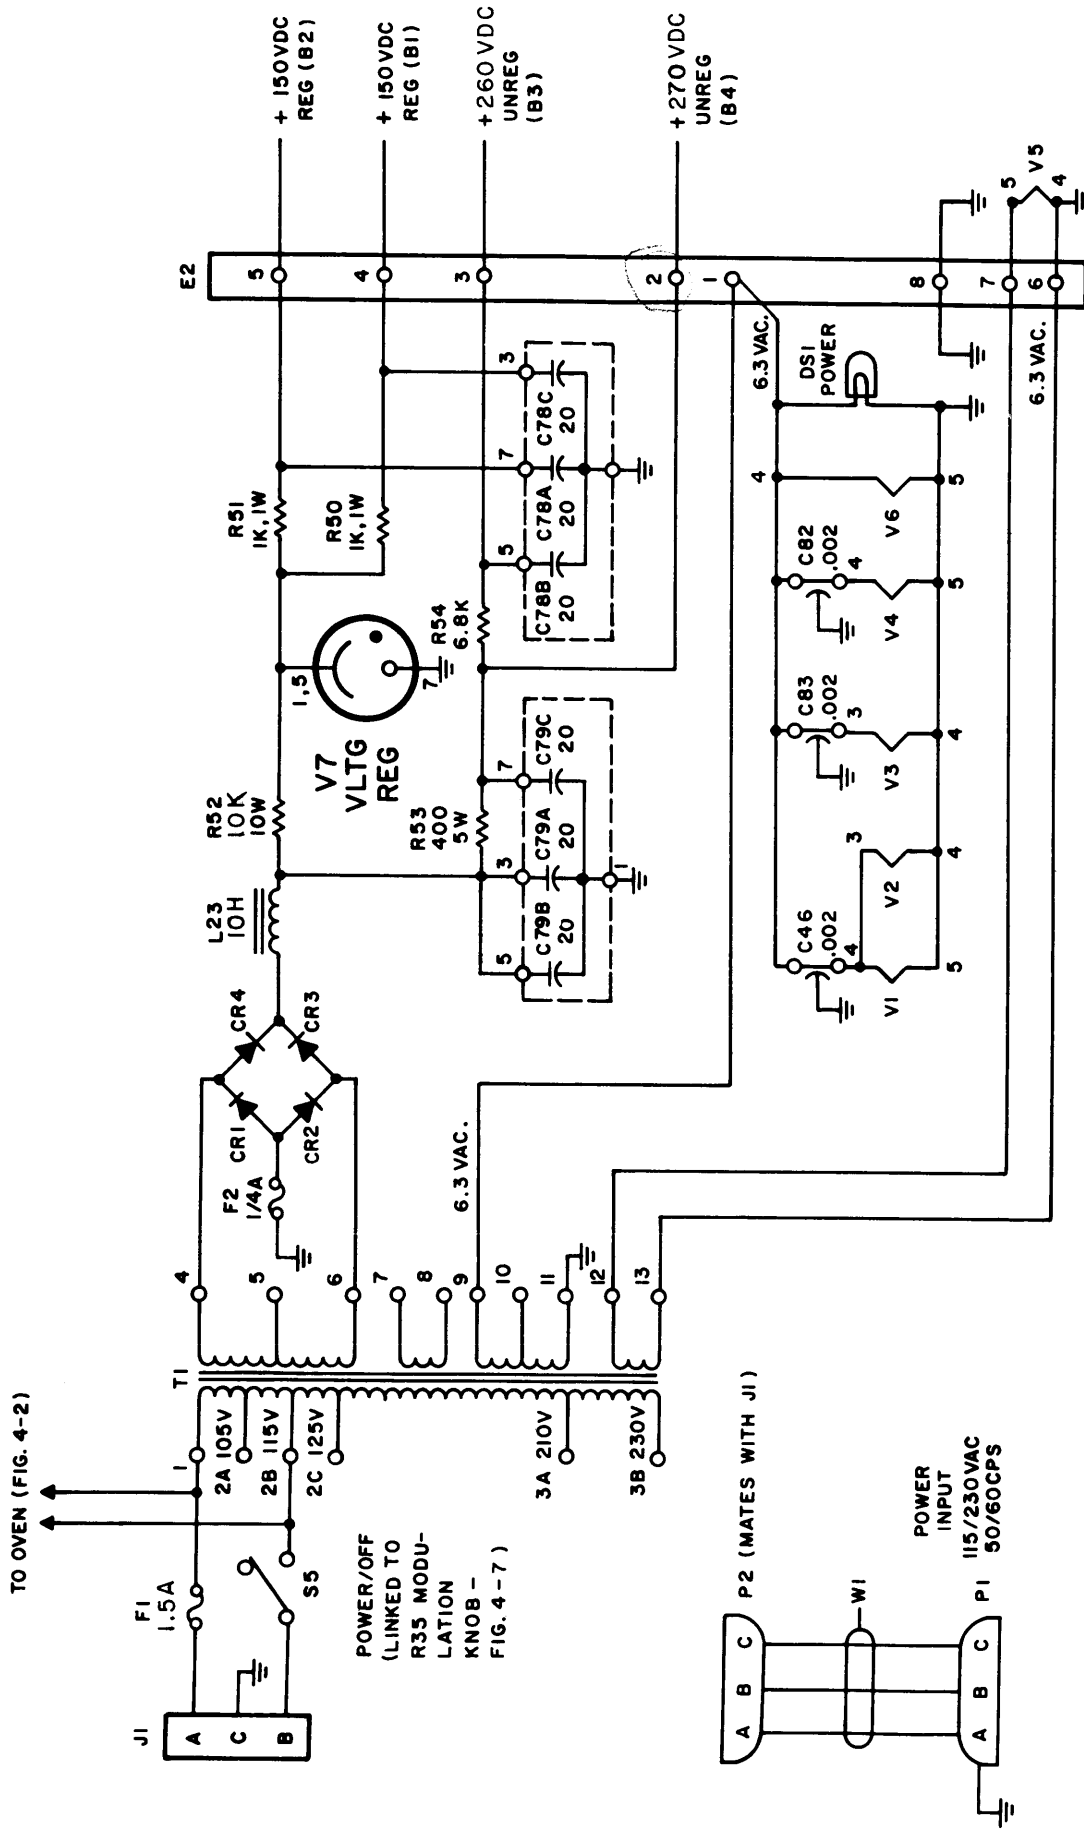

Figure 4-10. Simplified Schematic Diagram, Power Supply Section, GPE-1.
j. POWER SUPPLY SECTION (figure 4-10). Line voltage is brought in at J1 through power cable. Figure 4-10 schematic shows connections for a 115 VAC 50/60 CPS line voltage. Figure 8-1 shows modifications for a 230 VAC 50/60 CPS line voltage. The power supply circuitry is a conventional type, supplying a regulated +150 VDC, and unregulated +260 VDC and +270 VDC (keyer down), and 6.3 VAC for tube filaments. Turning MODULATION knob (R35 in figure 4-7) clockwise closes S5 switch.